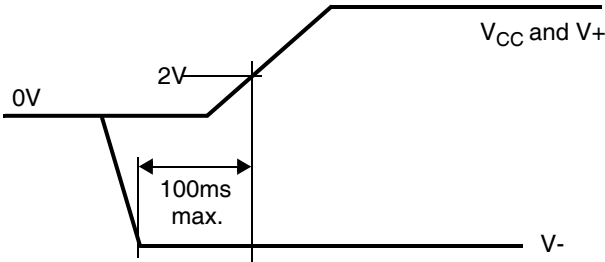

FIGURE 6. V-/V_{CC}/V₊ Power-on Timing
7. V_{CC} and V₊ should be greater than 2V within 100ms of V₋ reaching the maximum value of V₋. This condition has not been known to cause POR issues, but it can stress the device as the result of improper biasing. See Figure 6.